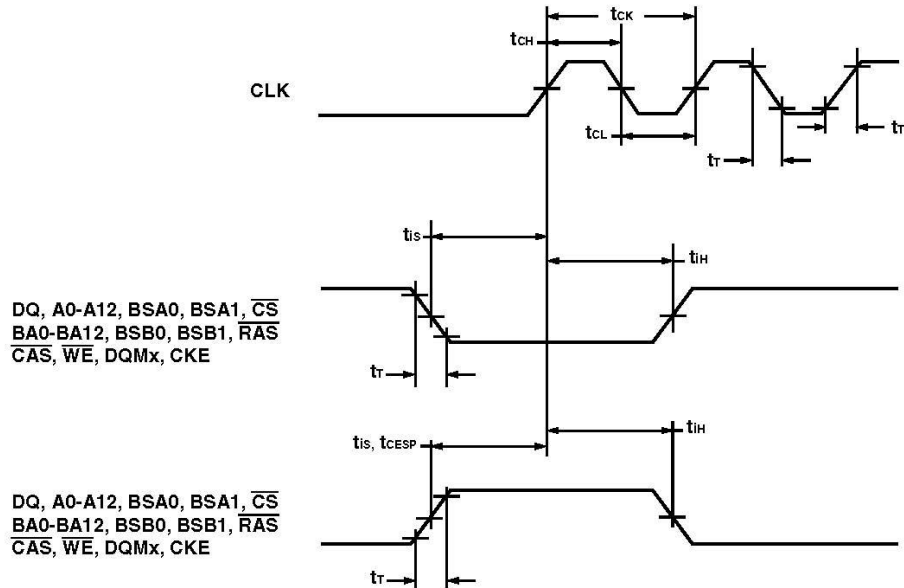

Figure 2: Input Attribute Parameters
* - See Figure 2 – LVTTTL Load Circuit for load circuits.